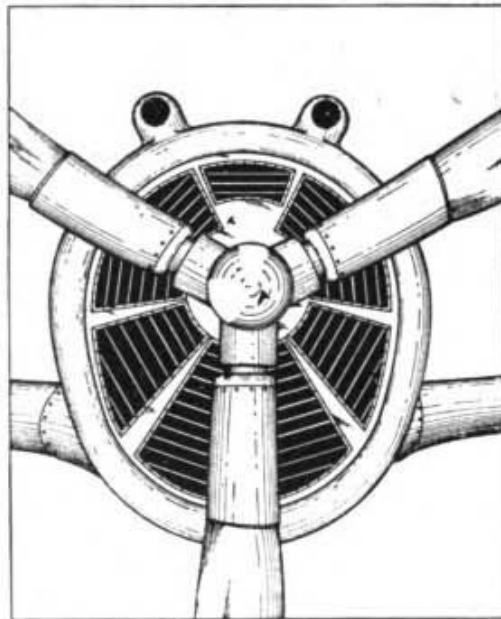
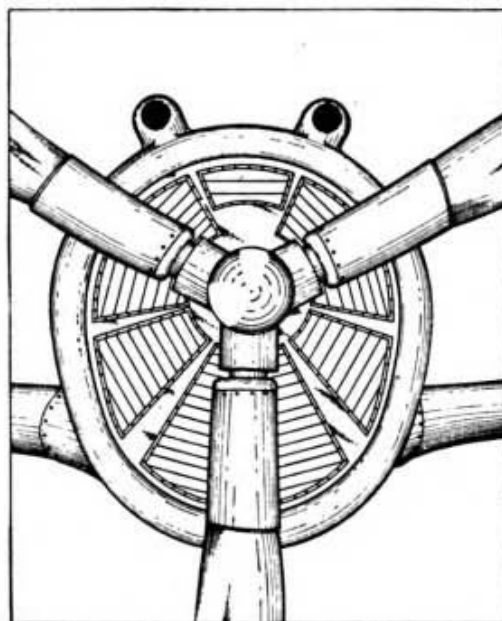

Figure 34. Engine cowl nose shutters—open.
Figure 35. Engine cowl nose shutters—closed.
(12) OPERATION OF ENGINE-COWL NOSE SHUTTERS. Cowl nose shutters are generally installed only on the air-cooled engines of airplanes at bases where the average atmospheric temperatures are 20° F. (-7° C.) or below. The purpose of the shutter assembly is to control the amount of air that flows over the engine. The shutters are controlled manually by levers located in the cockpit. Figure 34 shows the shutters in the OPEN position and figure 35 shows them in the CLOSED